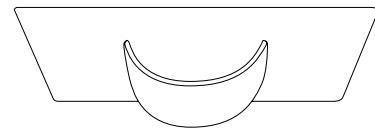

Fig 40 – reinforced anchor point on the underside of the Platform
The Platform has a reinforced anchor point on the underside ideal for towing (Fig 40).
4. The Platform has a reinforced anchor point on the underside, ideal for towing (Fig 40). This is positioned at the opposite end of the inflation valve, directly under the single MPM fitting.